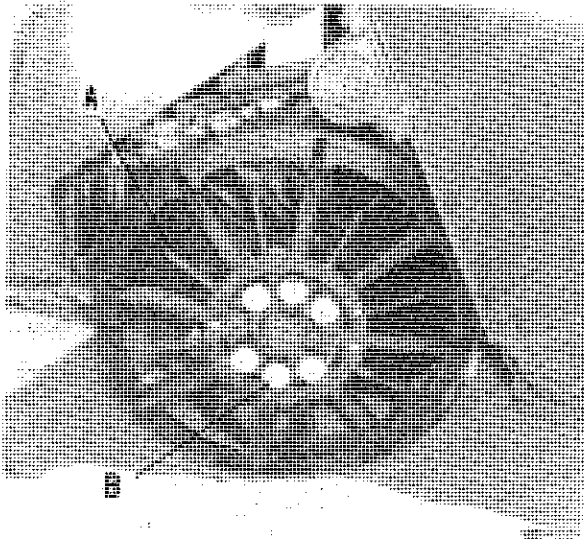

FIGURE 21 - CLOSE-UPS
Optional wheel close-ups (A) are available to prevent small beets from falling out between the lifter wheel spokes. Slots are provided in close-ups to allow rotating them out of the way when conditions warrant (see figure 21).
Optional cushions (B) are available (standard on flex struts) that allow the lifter wheels to spread apart when rocks are pinched between the wheels. The cushions are recommended where many small (baseball size) rocks are in the field. If large rocks are also present, the addition of flex struts is recommended (see figure 21).